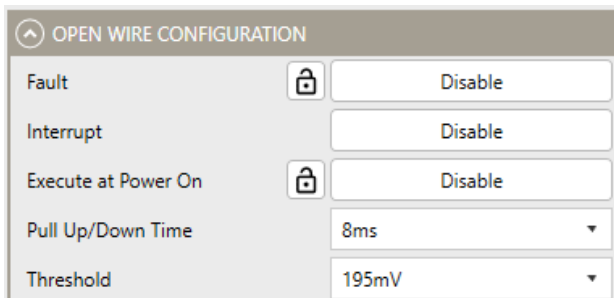

Figure 16: Open Wire Configuration
8. Figure 16 shows the Open-Wire Configuration settings in the GUI.